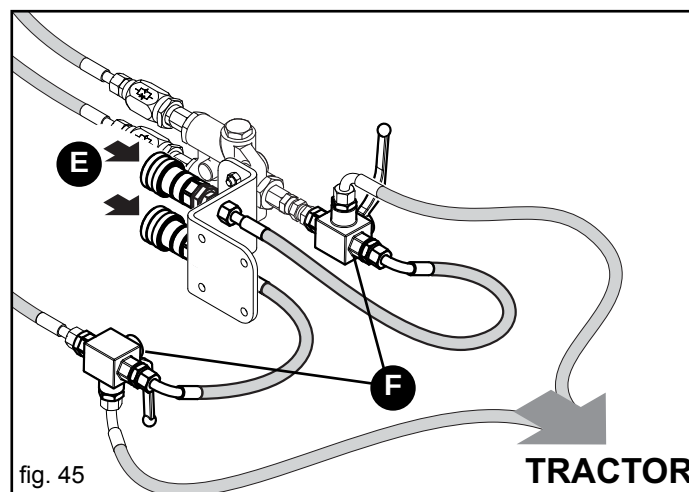

fig. 45
In the 500 and 600 models the hydraulic system of the row marker can be supplied with 3-way valves (F, Fig. 45) which use the same distributor as the tractor to manage and control an additional application (E) which works when the seed drill is not running (e.g. seed hopper filling equipment).